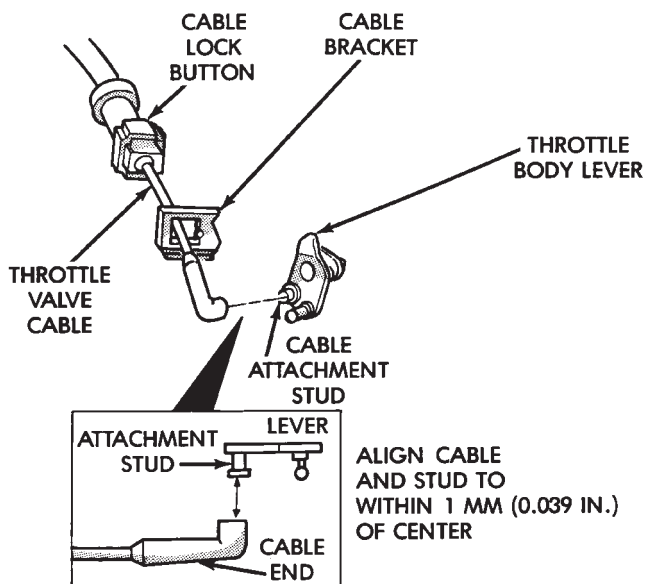

Fig. 4 Throttle Cable Adjustment Components
- (4) Slide cable off attachment stud on throttle body lever (Fig. 4).
- (5) Compare position of cable end to attachment stud on throttle body lever (Fig. 4):
- (6) Reconnect cable end to attachment stud. Then with aid of a helper, observe movement of transmission throttle lever and lever on throttle body.
- (1) Turn ignition switch to OFF position.
- (2) Remove air cleaner if necessary.
- (3) Disconnect cable end from attachment stud. **Carefully slide cable off stud. Do not pry or pull cable off.**
- (4) Verify that transmission throttle lever is in fully closed position. Then be sure lever on throttle body is at curb idle position.
- (5) Press cable lock button inward to release cable (Fig. 4). Lock button only has to move about 2 mm (0.070 in.) to release cable in adjuster head.
- (6) Center cable end on attachment stud to within 1 mm (0.039 in.) and release lock button.
- (7) Check cable adjustment. Be sure transmission throttle lever and lever on throttle body move simultaneously as described in cable adjustment checking procedure.